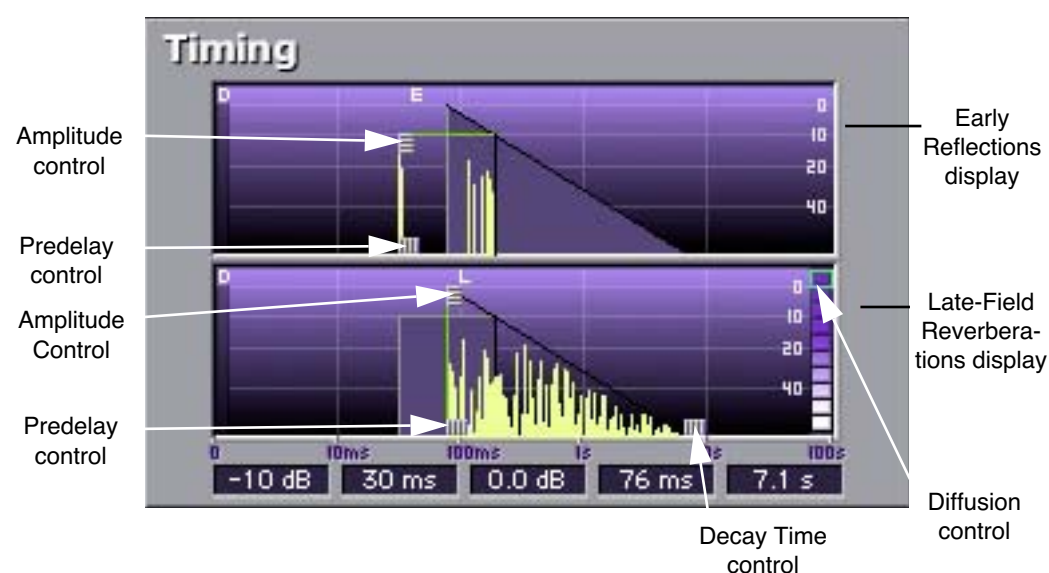

Figure 24. RealVerb Pro Timing panel
The resulting early reflection pattern is displayed at the top of the Timing panel (see Figure 24 on page 88), where each reflection is represented by a yellow vertical line with a height indicating its arrival energy, and a location indicating its arrival time.
**Note:** While materials are used to control decay rates as a function of frequency, the overall decay rate of the late-field reverberation is controlled from the Timing panel (see Figure 24 on page 88).
The Timing panel offers control over the timing and relative energies of the early reflections and late-field reverberations. These elements affect the reverb's perceived clarity and intimacy. The early reflections are displayed at the top of the Timing panel, with controls for Amplitude and Pre-delay. The late-field reverberations are displayed at the bottom, with controls for Amplitude, Pre-delay, and Decay Time. To illustrate the relation between both reverb components, the shape of the other is represented as an outline in both sections of the Timing panel (see Figure 24).